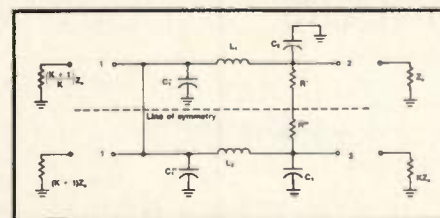

Figure 2. Equivalent circuit.
By forming the equivalent circuit shown in Figure 2, the circuit can be analyzed by employing the method of even and odd mode analysis outlined by Reed and Wheeler (4). To achieve a power splitting ratio of
Also from Figure 2